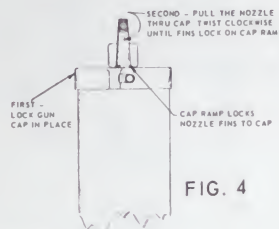

FIG. 4
- (5) Pull nozzle until fins come completely through cap. Twist clockwise to lock nozzle to cap. (Fins engage cap ramps.) Gun is now ready to use. See Figure 4.